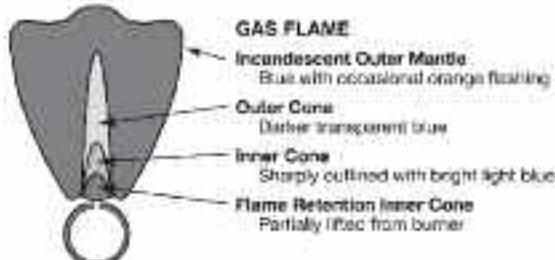

Fig. 16
- Adjust gas input rate. See Page 9 - *Adjusting Gas Input Rate*. Check main burner and pilot flames. See Fig. 16.
See Fig. 16 for healthy flame diagram.